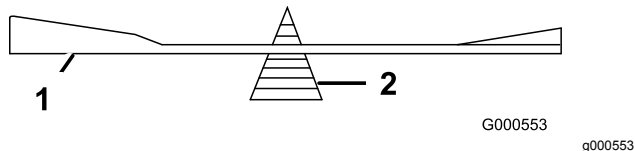

Figure 104
2. Check the balance of the blade by putting it on a blade balancer (**Figure 104**).